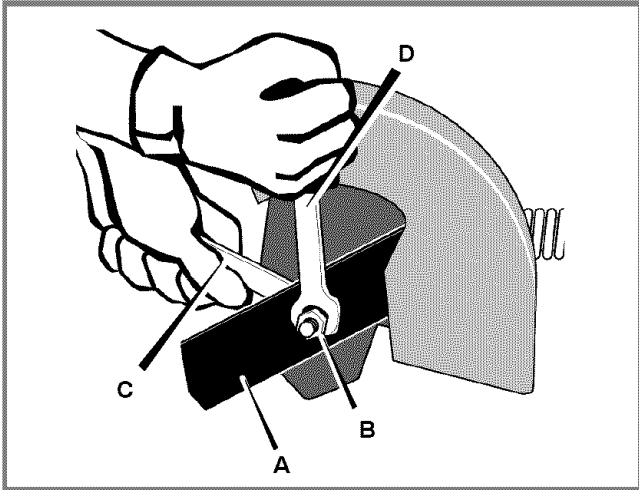

Figure 18: Blade Removal
NOTE: To remove or tighten the blade locknut, always use the method shown in Figure 18. First, secure wrench (C) onto the nut located behind the blade. Then, to remove or tighten the blade locknut, turn the wrench (D).